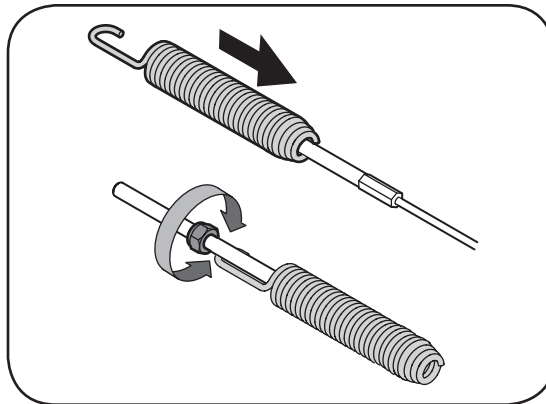

Figure 13
- Loosen the nylock nut on the drive control cable and unthread the cable one full turn. See Figure 13.
- Push the cable coupler through the end of the spring to expose the lock nut. See Figure 13.